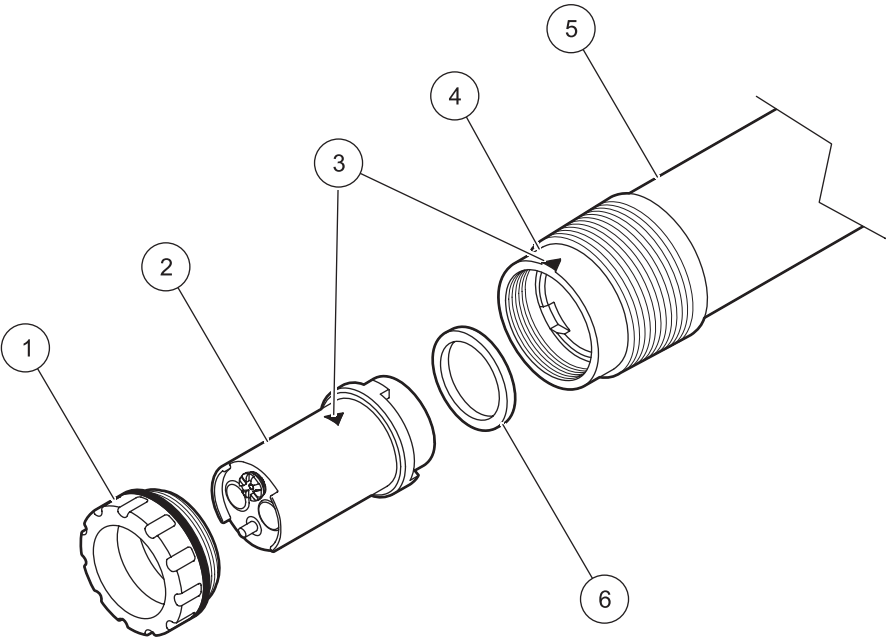

Figure 8 Sensor assembly
Important Note: The sensor cartridge only fits correctly in the sensor adapter in one position. Pay attention to the markings on the sensor cartridge and on the sensor adapter (see Figure 8 on page 14).
3. Align the markings on the sensor cartridge with the sensor adapter (see Figure 8 on page 14) and connect the sensor cartridge into the sensor adapter.